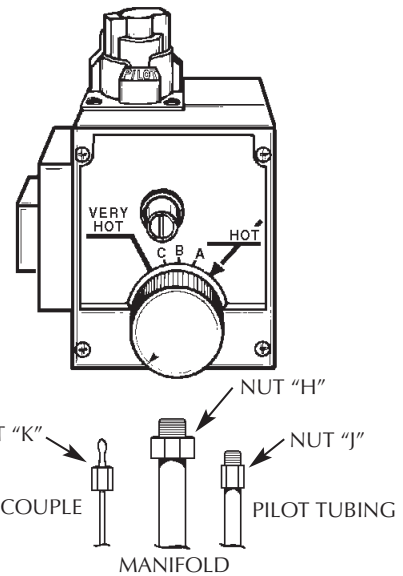
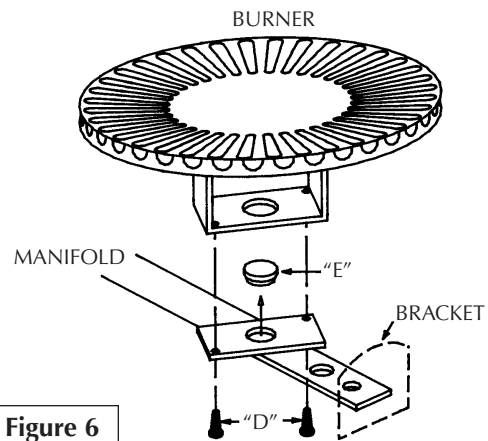

Figure 5
Figure 6
- Step 3. Remove burner assembly from water heater and control by loosening $\frac{3}{4}$ " nut "H" holding burner assembly to control. (See Figure 5, page 14). Loosen pilot tube nut "J" and thermocouple nut "K" at control.
- Step 4. Remove screws "D" disengaging manifold from burner. (See Figure 6, page 14)
- Step 5. Remove orifice "E" (See Figure 6, page 14) using $\frac{3}{8}$ " wrench. Install orifice marked "L.P." found in the bag into manifold. Tighten securely. Secure burner to manifold with screws "D".
- Step 7. Make sure all connections are tightened securely, and reinstall burner assembly into water heater. Position end of the manifold inside bracket as shown in Figure 6 on page 14. Reinstall manifold into control and tighten $\frac{3}{4}$ inch nut ("H") securely. Recheck to see that end of manifold is still inside bracket as shown in Figure 6 on page 14. Reinstall pilot tubing and thermocouple into control. (See Figure 5, page 14)
- Step 14. Push in control knob all the way and hold down. Immediately light the pilot with a match. Continue to hold control knob in for about one (1) minute after the pilot is lit. Release knob and it will pop back up. Pilot should remain lit. If it goes out, repeat steps 9 through 12.
- Step 15. Check for gas leaks with only pilot flame burning using a soapy water solution, not a match or open flame. Check for gas leaks at fittings "F" and "G" (See Figure 7, page 14) and at fitting "J" (See Figure 5, page 14).
- Step 19. With a soapy water solution, not a match or open flame, check for gas leaks at gas connection "H". (See Figure 5, page 14). If gas leak occurs, turn off immediately by shutting off gas cock at inlet to control, or by turning gas control knob (↻) to "PILOT" pushing down and turning to "OFF". Repair gas leak as necessary, and repeat steps 9 through 19.